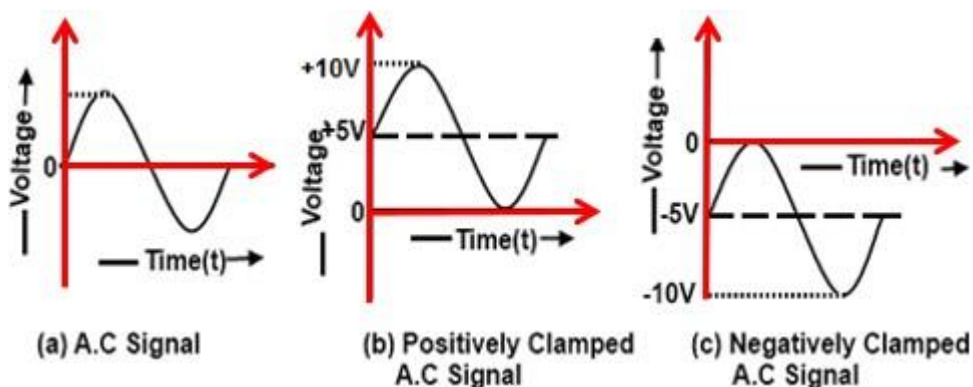

Figure 2.12 Clamper voltage waveform
- Capacitor and diode position will determine either it is positive clamper or negative clamper. Figure 2.12 shows the clamper voltage waveform.